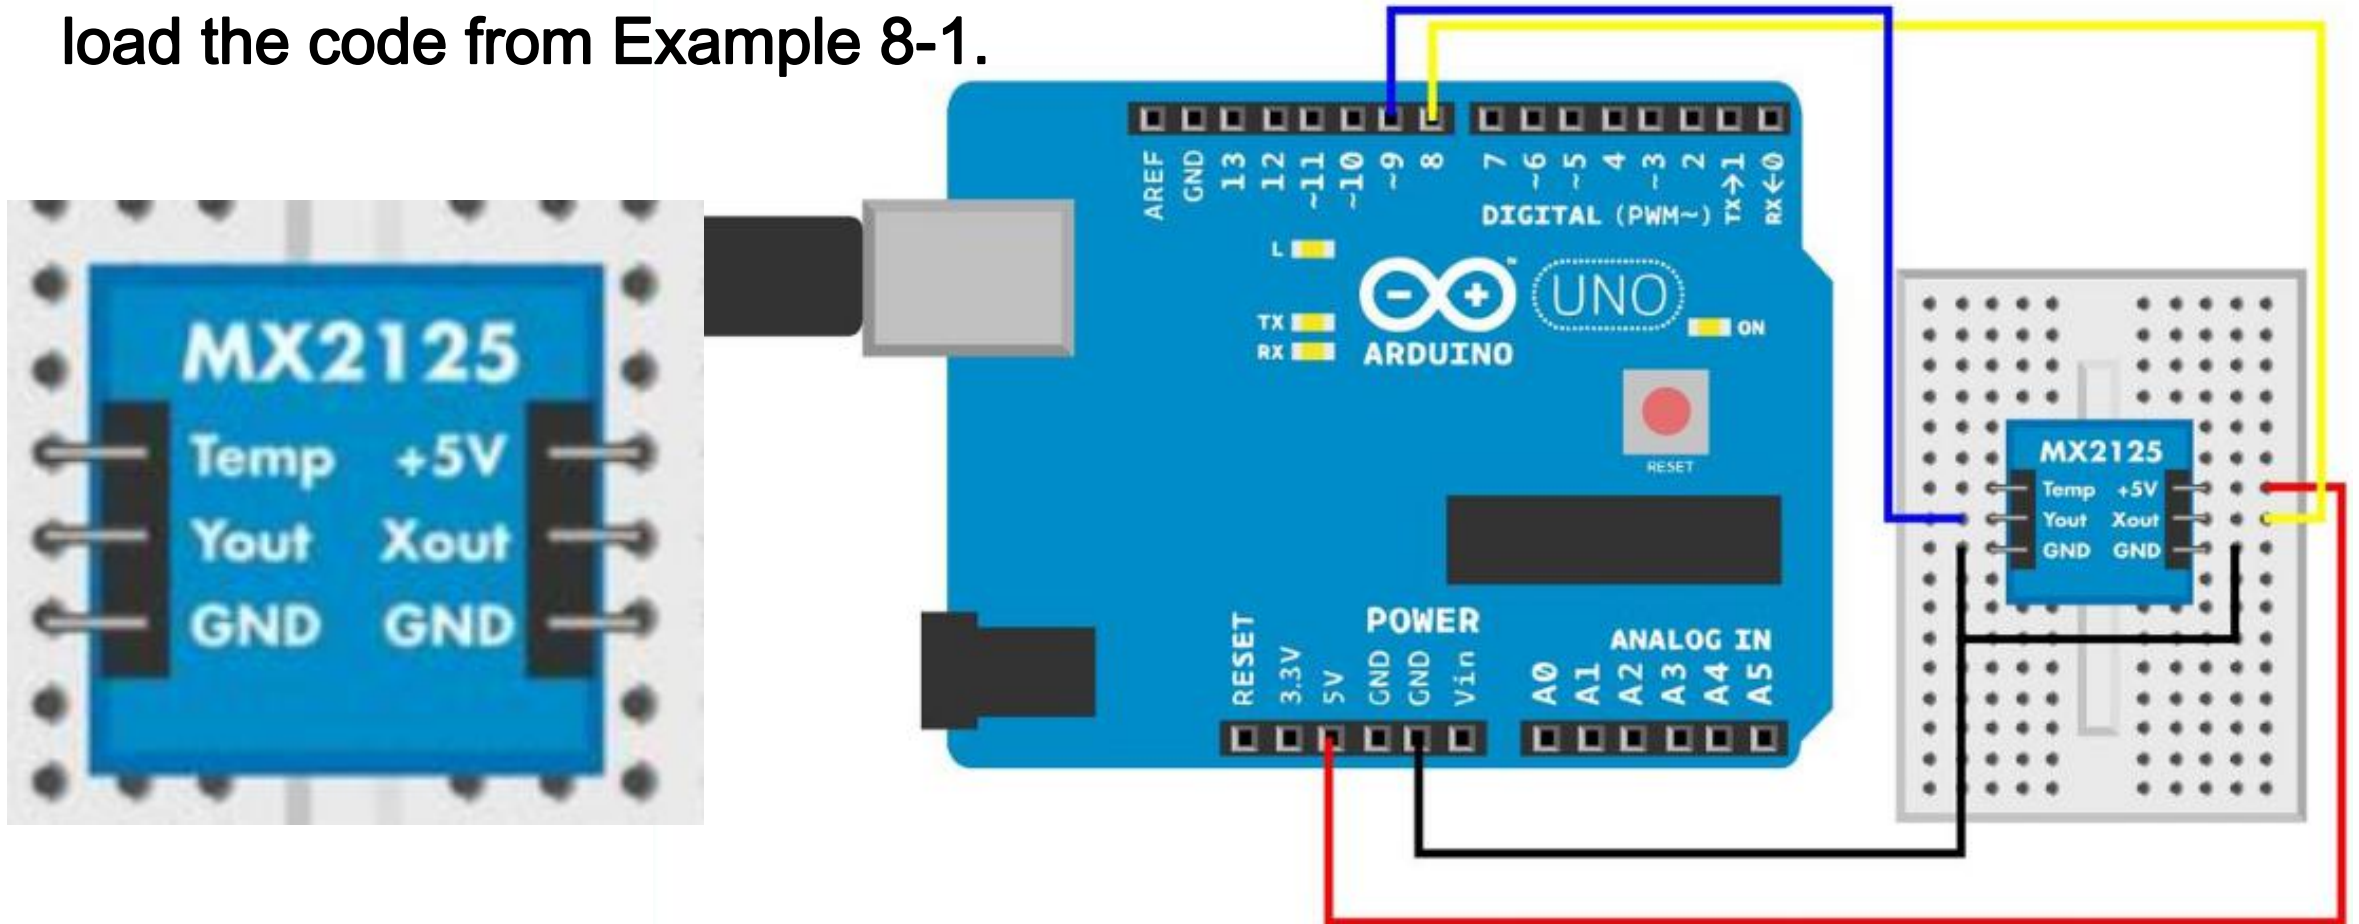

Figure 8-2. MX2125 dual axis accelerometer circuit for Arduino
- Figure 8-2 shows the circuit diagram for Arduino. Wire it up as shown, and load the code from Example 8-1.